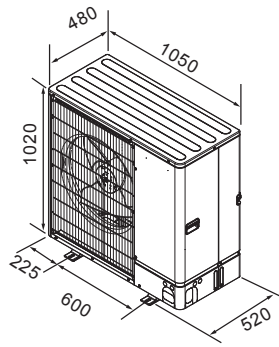

Fig. 1-3
1.3. Outline dimensions (Outdoor unit) (Fig. 1-3)